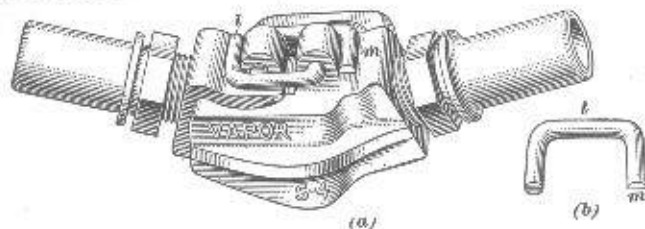

FIG. 13
12. A simple locking device used on an S-4 coupler is shown in Fig. 13 (a). It consists of a short U-shaped hook *l*, view (b), one leg of which passes through the lug on the coupler head, leaving the other end free. When two couplers are connected, the free end of each hook is thrown over the lug on the other coupler head, thus locking the two couplers firmly together. The lock should not be put in place until the coupler heads are properly connected.
24. Replacing Gaskets.—The gasket found in the head of the S-4 steam coupler, Fig. 13 (a), has a spring that, when the gasket is in place, expands into a groove in the casting and so holds the gasket in place. The ends of the spring extend inwards into the central opening of the gasket, and must be pinched together in order to contract the spring enough so the gasket can be withdrawn readily. A small bar tool called the S-4 Gasket Remover and Lock Lifter is made as a handy means of removing gaskets and lifting the lock hook. One end has a tapered opening which allows the remover to be slipped over the spring ends. A pull on the remover causes the spring ends to be squeezed together and the gasket slips out of the coupler head. The gasket can be pushed into place without difficulty.